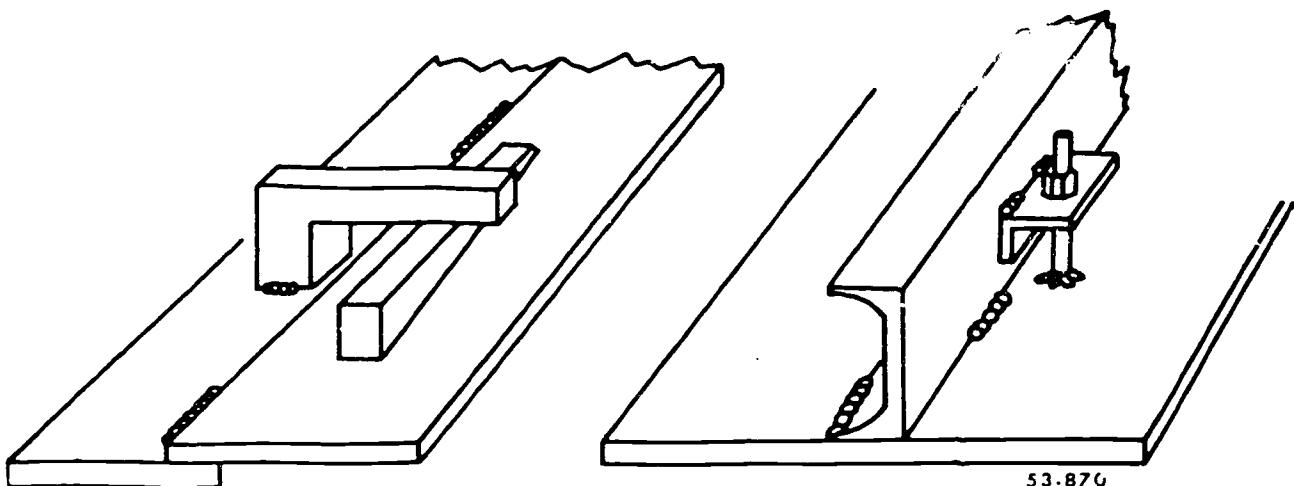

Figure 3-12. Using fit-up dogs.
**Lap welding procedure.** When you are joining metal thicknesses greater than 1 1/8 inch, the edges of the sheet should overlap approximately three to four times the metal thickness. Tack the plates at intervals of approximately 8 inches. If you must force the fit-up by means of dogs, as illustrated in figure 3-12, short welds are preferred to tack welds.